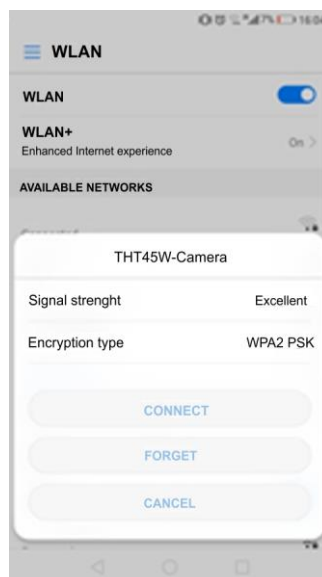

Fig. 40: Example of WiFi connection of the instrument
2. Switch on the mobile device and search for the "THT45W-Camera" instrument in the WiFi connection settings (see example of Fig. 40)